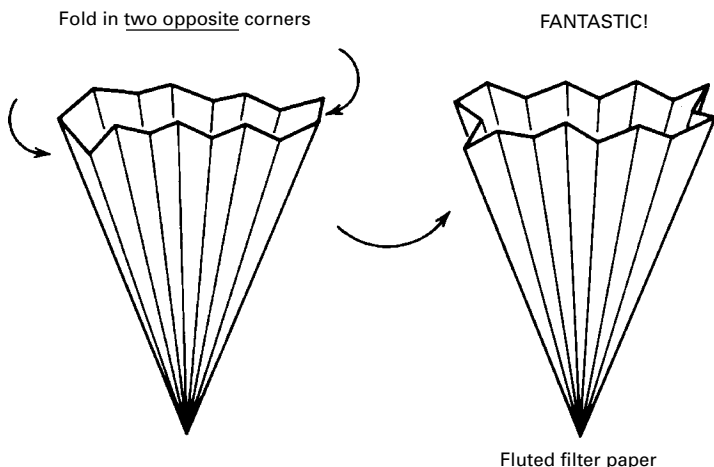

FIGURE 13.12 Finishing the final fluted fan.
4. Open the fan and play with it until you get a fairly fluted filter cone (Fig. 13.12).
5. It'll be a bit difficult, but try to find the two opposing sections that are not folded correctly. Fold them inward (Fig. 13.12), and you'll have a fantastic fan-folded fluted filter paper of your very own.